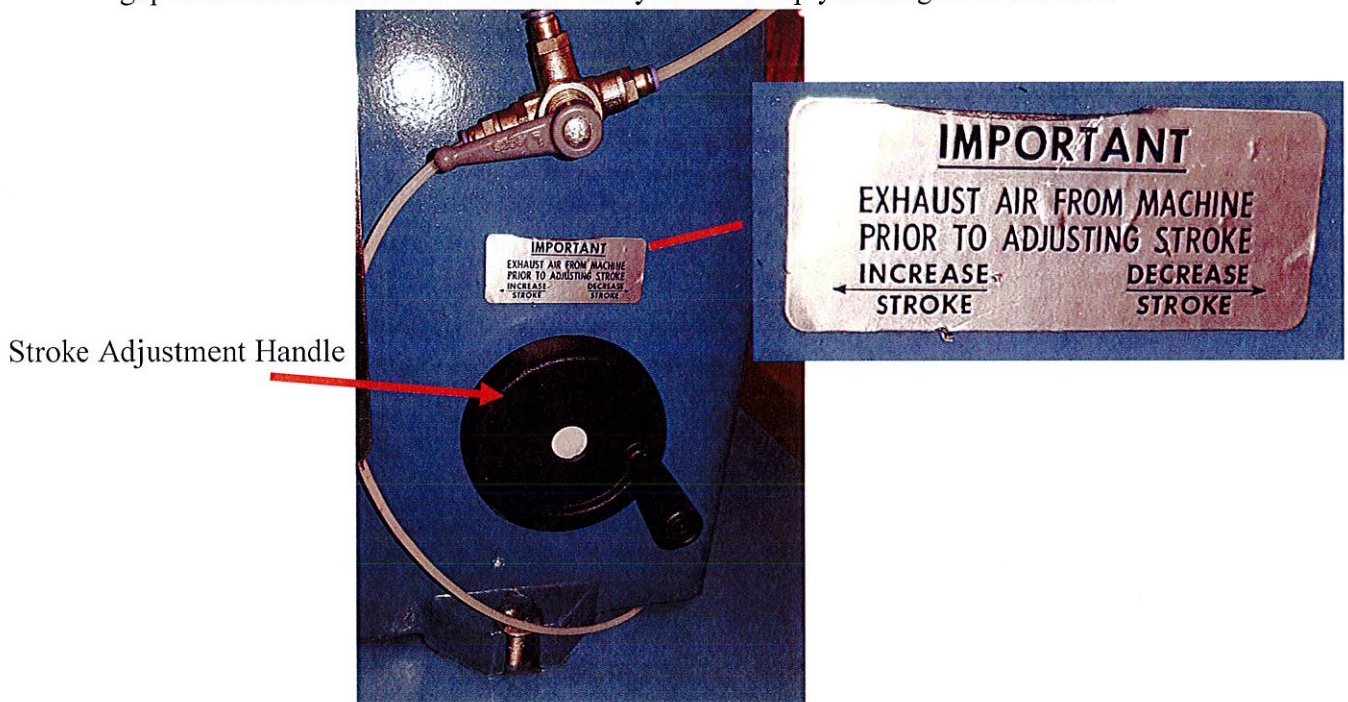
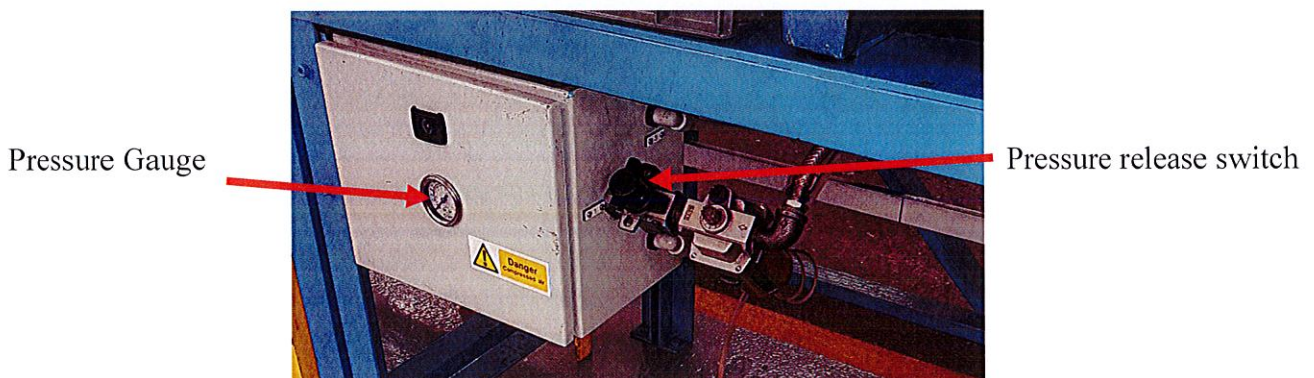

Figure 4: Shows the stroke adjustment handle and the information for adjustment.
Figure 5: Compressed air gauge and pressure release switch.
6.4. **Setting the Stroke.** On the right-hand side of the machine shown in figure 4, use the handle to add or remove the desired stroke needed. The compressed air needs to be released from the press before an alteration can be made (Figure 5). The information above the handle shows which way you should wind the handle to make your adjustment. The stroke should be set so that there is a gap less than 3mm. this is to ensure that you can't trap your fingers in the tool.